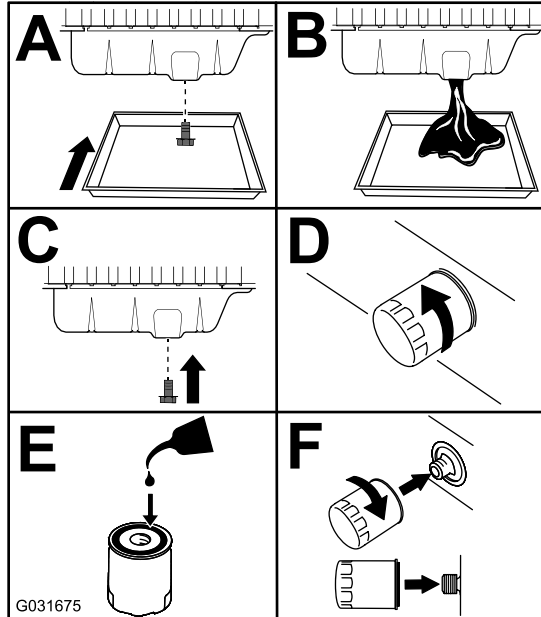

Figure 81
3. Replace the engine oil and filter (Figure 81).